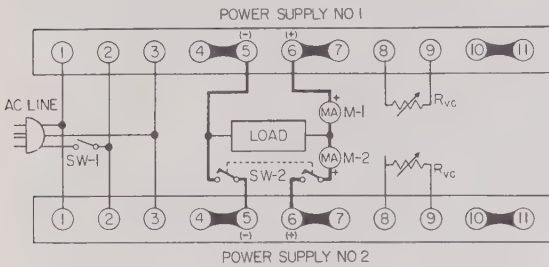

FIG. 3-11 PARALLEL CONNECTION OF PBX SUPPLIES
### 3.41 Procedure (Refer to Fig. 3-11)
- a) Connect units as shown in Fig. 3.11. Open SW-1 and SW-2 and connect to line.